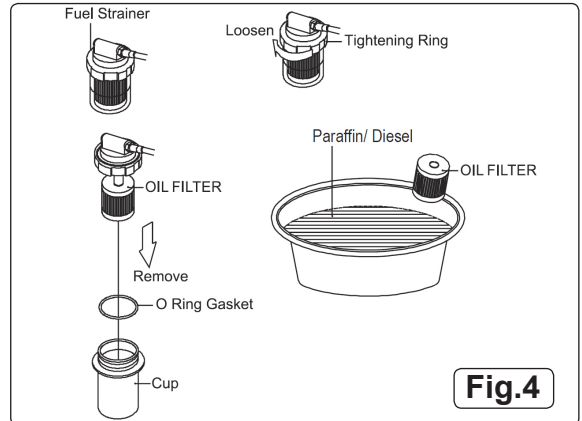

Fig.4
6.2. Filters - The Fuel Filter and Oil Filter should be cleaned at least twice per heating season by rinsing them in clean kerosene/paraffin/diesel. This procedure should also be followed if the fuel is found to be contaminated (Fig.4).